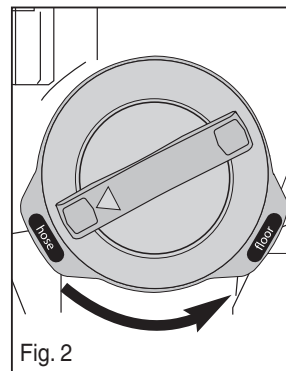

Fig. 2
- 2) Turn height adjustment knob to bare floor position (Fig. 2).